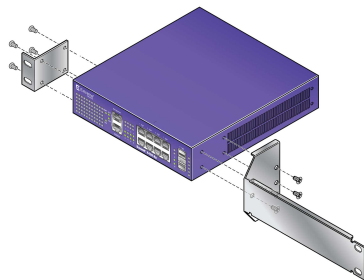

Figure 228: Attaching brackets to the Summit X430-8p Series Switch
- a Set the brackets against the switch housing, with the flanges even with the front panel of the switch (Figure 228: Attaching brackets to the Summit X430-8p Series Switch on page 262).